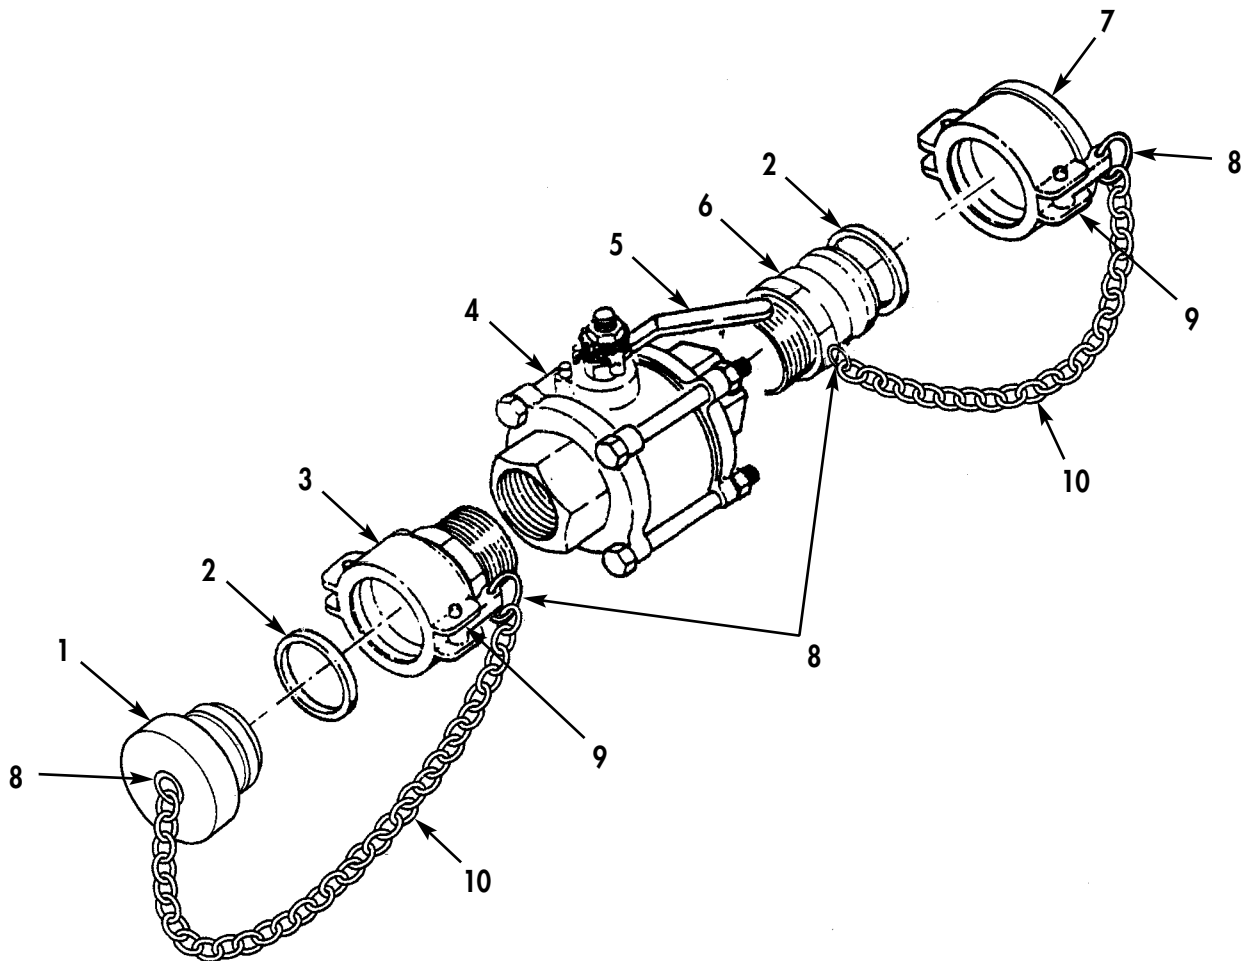

Figure 2. Ball Valve Couplings Removed.
2. Remove coupling halves (Figure 2, Item 6) and (Figure 2, Item 3) from ball valve (Figure 2, Item 4).
1. Inspect exterior of ball valve (Figure 2, Item 4) for cracks, distortion, and damaged or missing parts. If any damaged or missing parts are found, discard ball valve (Figure 2, Item 4).
2. Check for smooth operation of ball valve (Figure 2, Item 4). If lever (Figure 2, Item 5) cannot be turned or is excessively loose, discard ball valve (Figure 2, Item 4).
3. Inspect coupling half (Figure 2, Item 6) for cracks, distortion, and damage to mating surfaces that would result in leaks. If any cracks, distortion, or damaged mating surfaces are found, discard coupling half (Figure 2, Item 6).
4. Inspect coupling half (Figure 2, Item 3) for cracks, distortion, missing or excessively worn cam arms (9), and damage to mating surfaces that would result in leaks. If cam arms (Figure 2, Item 9) are missing, worn, or damaged, or if any cracks, distortion, or damaged mating surfaces are found, discard coupling half (Figure 2, Item 3).
5. Inspect dust cap (Figure 2, Item 7) and cam arms (Figure 2, Item 9), plug (Figure 2, Item 1), two retaining chains (Figure 2, Item 10), and four retaining rings (Figure 2, Item 8) for damage or if missing. Replace any damaged or missing item. Refer to WP 0033.